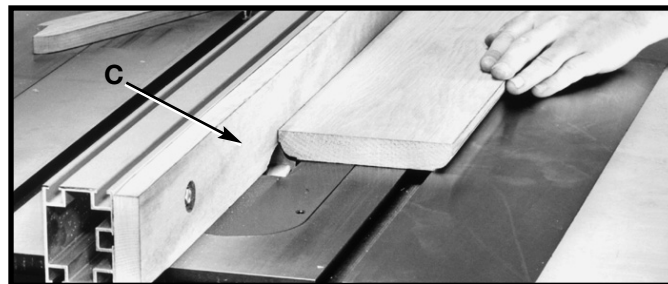

Fig. 65
2. When using the moulding cutterhead, add wood-facing (C) to the face of the rip fence (Fig. 65). The wood-facing is attached to the fence with wood screws through holes which must be drilled in the fence. Stock that is 3/4" inch thick is suitable for most work, although an occasional job may require 1 inch facing.
3. Position the wood-facing over the cutterhead with the cutterhead below the surface of the table. Turn the saw on and raise the cutterhead. The cutterhead will cut its own groove in the wood-facing. Fig. 65 shows a typical moulding operation.